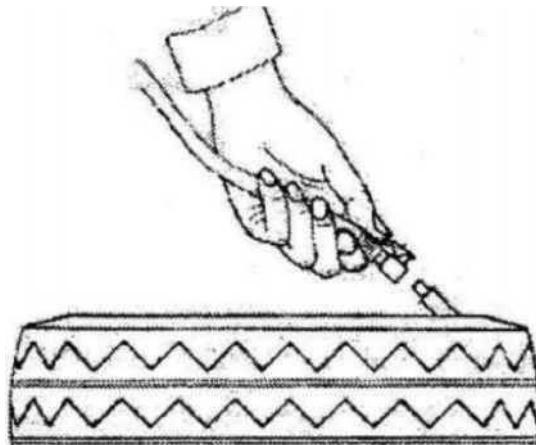

Figure 13
- ✧ The special lubricant is coated in the rim, it can prevent the rim flange is damaged, and can make the installation more convenient. Move the tire, make the rim flange go through bottom which in the front of the mounting head (I), along the mounting head (I), make the rim flange be on the top which at the rear of the mounting head (I).
- ✧ As shown in Figure 13, pressing the flange into the groove of rim with hand, step pedal (Z), make the turntable rotates clockwise, until the rim flange falls completely into the rim. (hands and the other parts of the body are to be as far away as possible from the operating arm (M), in order to avoid accidents.
- ✧ Remove the tire from the turntable, if you need a greater inflation pressure, you can place the tire into a special protective cage to continue to inflate it, use the pneumatic gun provided by the tire changer to inflate, according to the following steps to complete: first, connect the pneumatic nozzle to the tire valve (as shown in Figure 13), second, confirm whether the tire diameter is consistent with the diameter of the rim, third, release the trigger of the gas gun and control the pressure of the pressure gauge in the process until the tire is fit to the rim, at last, continue to inflate, and often check the inflation gauge pressure until the pressure reaches the specified value of the tire. (Note: use the inflated gun to inflate the tire, regularly check the pressure of the inflation gauge).